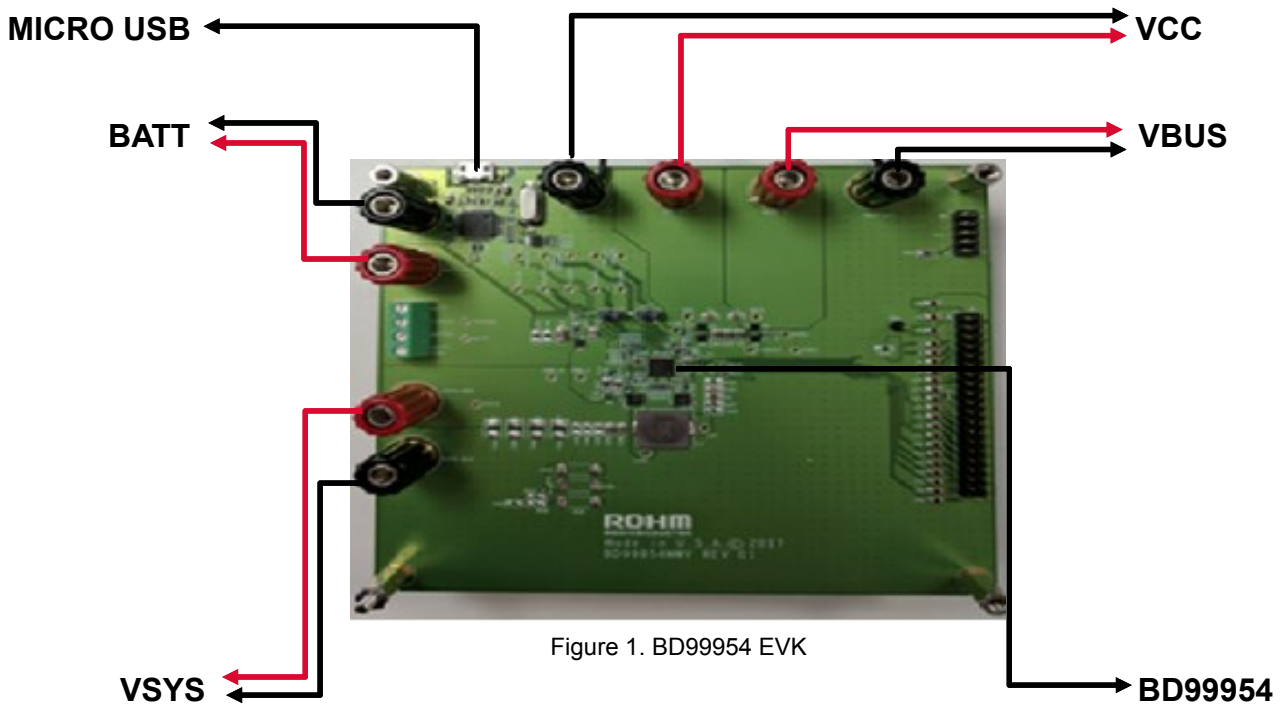

Figure 1. BD99954 EVK
1. Attach power supply to VBUS/VCC banana jacks. BD99954 will detect which node is being used to power up IC, but if both VBUS and VCC (Figure 1) are connected to a source, VBUS will have priority to power up IC unless programmed otherwise.
2. If battery charging is in order, attach cell(s) to the VBATT (Figure 1) banana jacks.
4. Turn on power supply. Voltage on VSYS (Figure 1) should be around 8.9V. This is the default value that is programmed into the chip upon power up.
5. If user would like to program the registers of the BD99954, connect micro-USB (Figure 1) to the board (J48) to the USB port of a computer, then utilize the BD99954 I2C Control Software. Refer to BD99954 I2C Control Software User Manual for more information.